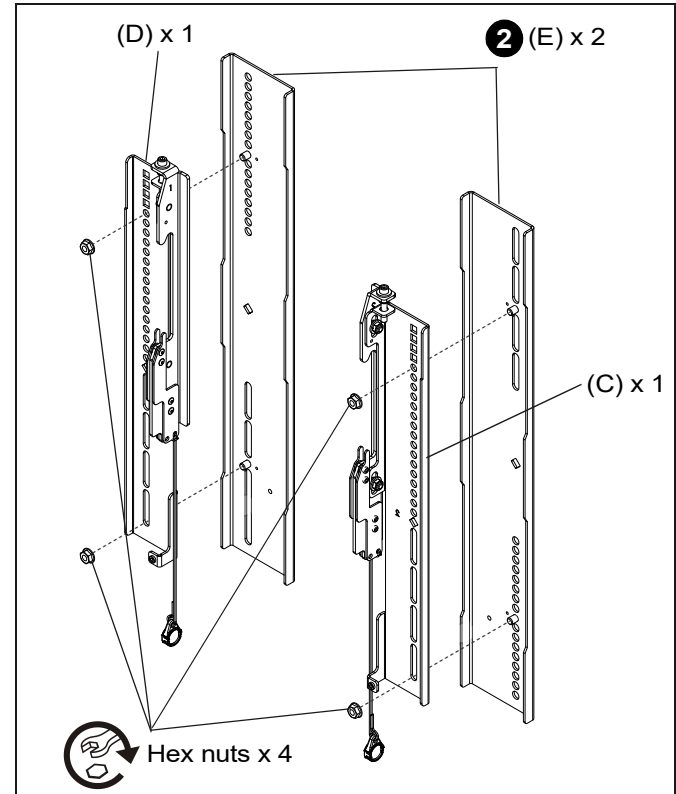

Figure 21
9. Install an interface adapter (E) to the left (D) and right (C) interface brackets using the attached hex nuts. (See Figure 21)
10. Install an interface adapter (E) to the left and right interface brackets included with TFSMB/TFSMW using the attached hex nuts. (See Figure 21)